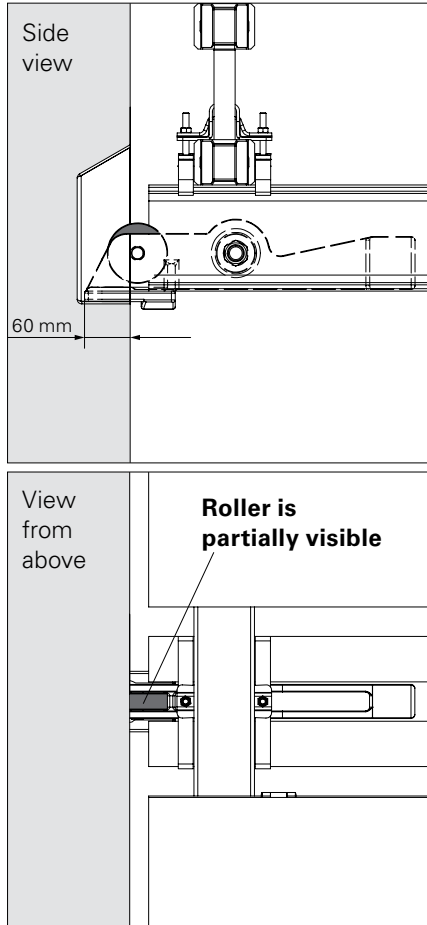

Fig. C3.04
2. Check whether a gap is visible between the shaft wall and the roller of the Gravity Pivot Plate. (Fig. C3.04 - C3.06)